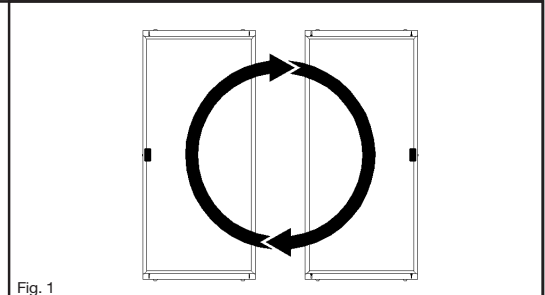

Fig. 1
- 1 Determine which direction the screen panel should slide.** The pull handle side of the new screen panel should be the same as the Gliding Patio Door and the screen latch toggle button release should face the interior. To reverse which side the handle is on, cartwheel the sliding screen panel 180° (Fig. 1).